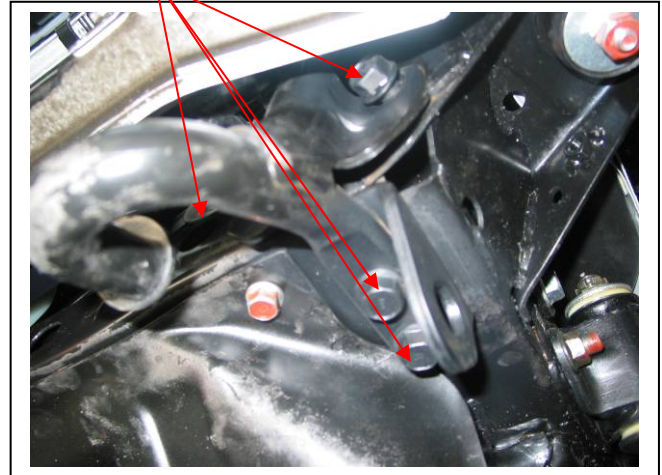

Figure 2 – Passenger side shown
4. Remove passenger side tow hook / tie down bracket. Four 17mm head bolts. **See figure 2.**